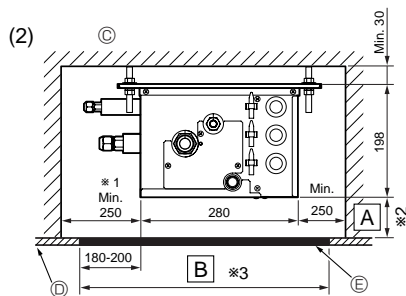
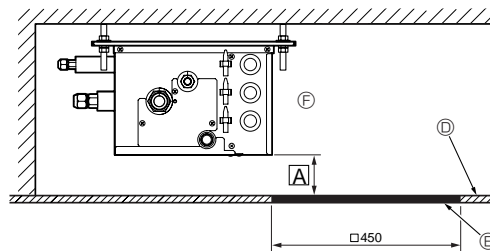

Fig.3-2
Fig.3-3
#### (2) Side View (Fig. 3-2, Fig. 3-3)
In the case of "□450", prepare a maintenance hole at a PCB side as it is shown in Fig. 3-3, and "Min. 300 mm" is needed as distance Ⓐ.